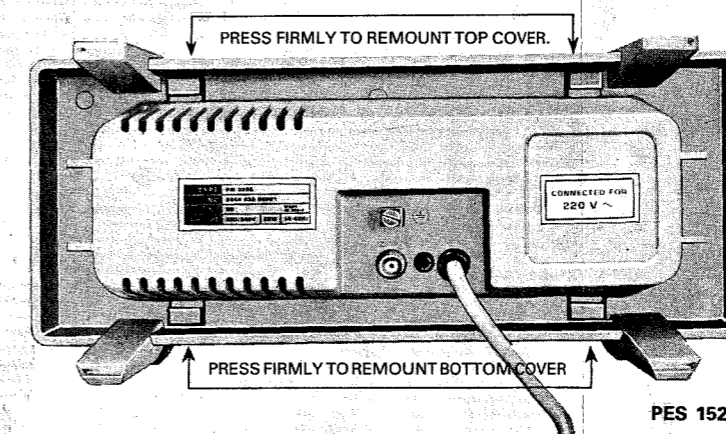

Fig. 3.2 Remounting the top cover
- Press the two buttons at the rear side until the click. (Fig. 3.2.)
- The top-cover will lift now about 2 mm (Fig. 3.2.).
- Press the upper rear side firmly down until the click (Fig. 3.2.).